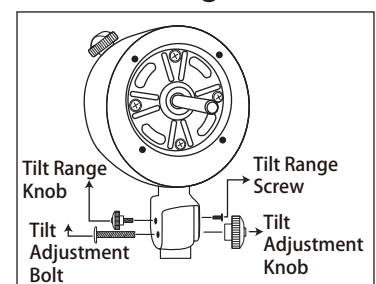

Figure 6
8. Fix the joint screw through the inner pole and tighten it. Then fasten with vertical position knob and position screw. Figure 6.